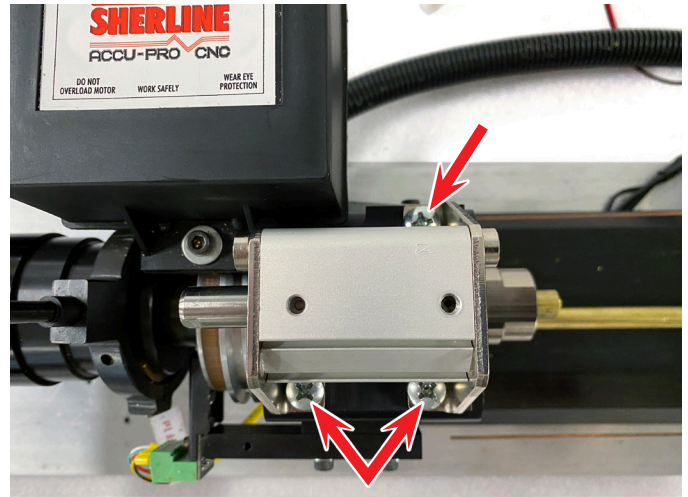

FIGURE 17
- D. Insert the (3) 1/4-20 Phillips head screws (P/N 88060) and tighten them only finger tight to the mounting plate (see Figure 17).